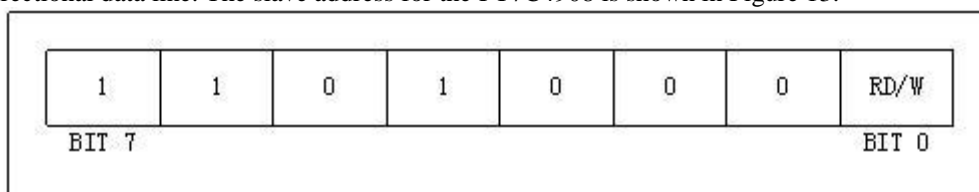

Figure 13 2-Wire Slave Address Byte
Before any data is transmitted on the bus, the device that should respond is addressed first. The first byte sent after the start (S) procedure is the address byte. The PT7C4908 acts as a slave transmitter/receiver. Therefore, SCL is only an input clock signal and SDA is a bidirectional data line. The slave address for the PT7C4908 is shown in Figure 13.